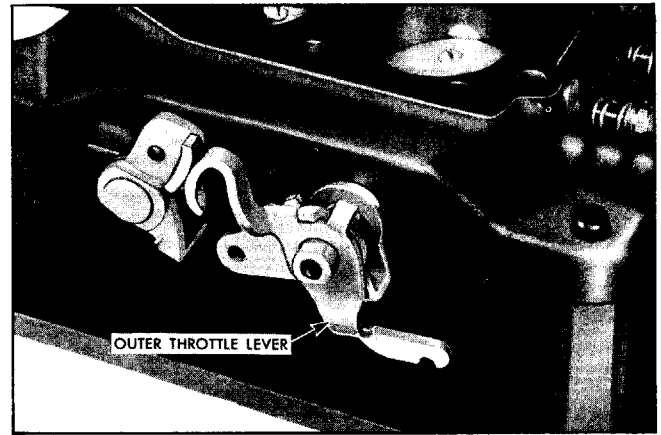

Fig. 6B-58 Outer Throttle Lever Installed
9. Install throttle shaft dog, washer, and screw. Hook throttle flex spring on outer throttle lever and throttle shaft dog (Fig. 6B-59).